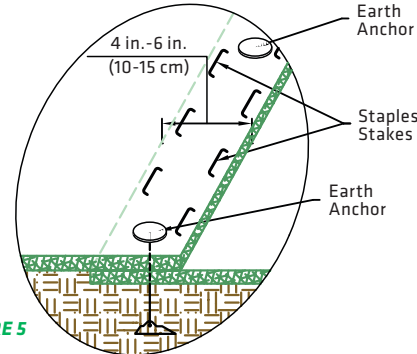

FIGURE 5
- ▶ Adjacent RECPs must be overlapped 3 in.-5 in. (5-12.5 cm) overlap. Consecutive blankets should be placed end-over-end (shingle style). Secure with a double row of staples staggered 4 in. (10 cm) apart and 4 in. (10 cm) on center and anchors to secure (Figure 5).